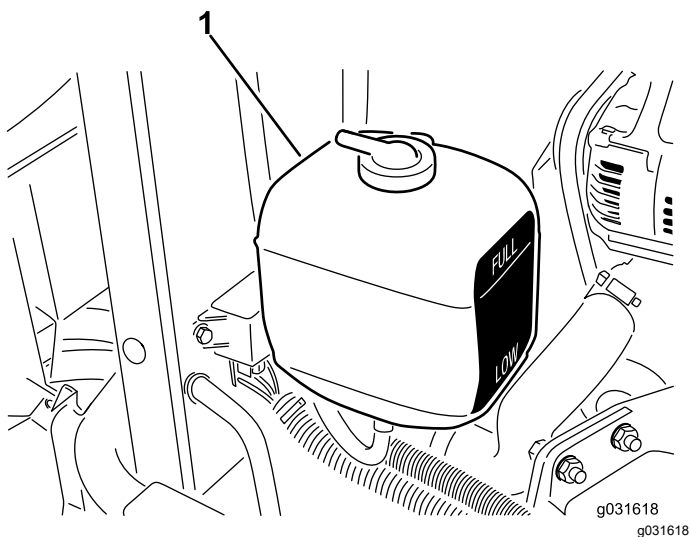

Figure 58
1. Check the coolant level in the expansion tank (Figure 58).